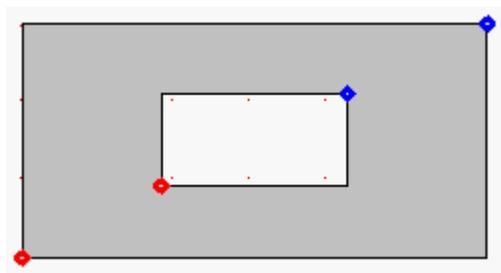
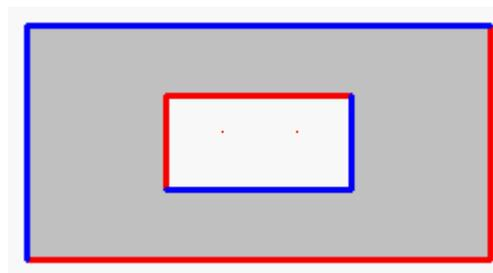

Figure 1
Figure 2
When you have activated the tool, choose the desired boundary condition from the Boundary Condition flyout or from the Boundary Condition drop down list in the tool properties (see figure 3). Set the mouse on the spot on the edge of a domain from which the boundary condition should be valid, and click on the spot. If the option **Only vertices with change of direction** is checked, the boundary condition will be assigned to the nearest corner with change of direction. The boundary condition is now represented as a point, which has the color of the corresponding boundary condition (see Boundary Condition flyout). Only the start points of the boundary conditions are defined (see figure 1). The boundary conditions are shown deferred as polygons, if the corresponding option is selected in options dialog window (cf. User Interface Options dialog window). When you calculate the construction, the validity of the construction is also computed. After doing so, the boundary conditions will be shown with the corresponding color around them (see figure 2).
- General: The boundary condition of the starting point is valid for all edges, where there is material to the left of the boundary condition up to the next starting point (see figure 1 and figure 2).